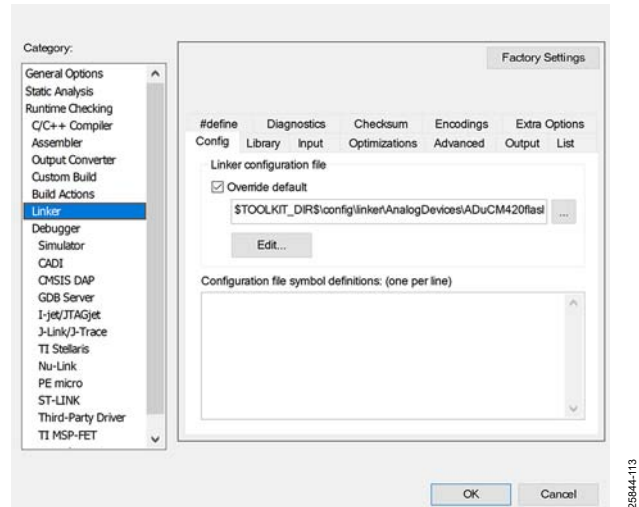

Figure 14. Linker Setting
- Next, click the **Linker** category, check the **Override default** box in the **Config** tab, and browse for the linker file under the **Linker configuration file** section, as shown in Figure 14.